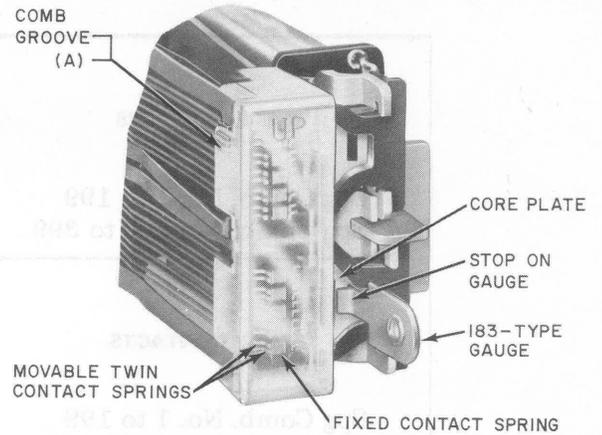

Fig. 3—183-Type Gauge Inserted in Armature Gap
Fig. 3, (A)—The twin springs of a movable pair shall be in the respective comb grooves associated with the position on the relay in which the springs are mounted.
(c) To check the requirements where the gauge is to be inserted in the armature gap, electrically operate and release the relay. Insert into the armature gap a 183-type gauge of the proper thickness with the stop on the gauge resting against the core plate as shown in Fig. 3. Hold the gauge so that its long axis is in a horizontal position and the gauge does not touch the card. Then electrically energize the relay and note whether the contacts are open or closed as required. When a gauge is inserted in the armature gap of the relay, the relay may release